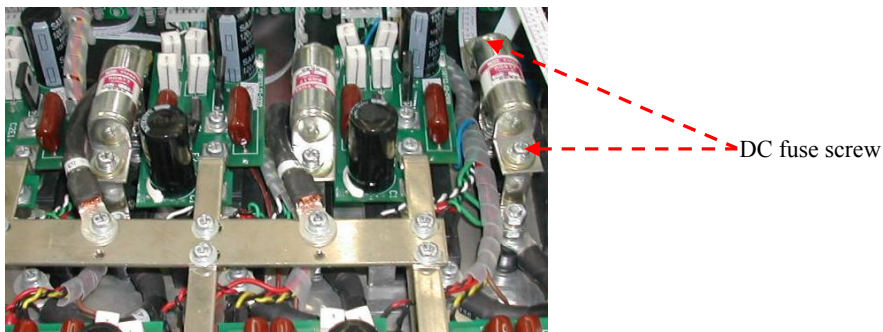

Figure 5-4 Remove the three phase DC fuse
③ **Inverter fault diagnosis :** The inverter fault diagnosis: Remove the inverter DC fuse, as shown in figure 5-4. Close the power breaker, if the rectifier start normally and the panel rectifier light is on, test the voltage between the battery breaker upper part to “BAT-” of the terminal with a multimeter(confirm that the battery breaker is Turn off) , as shown in figure 5-5. If the voltage is $394 \pm 4VDC$, then the rectifier is normal, the fault should be caused by the inverter.